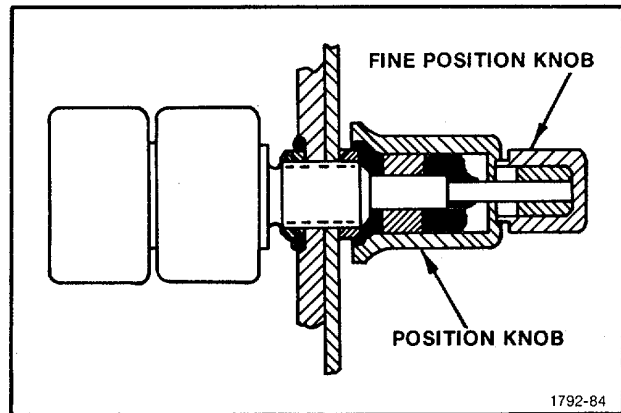

Figure 5-31. Installation of knob on shaft.
2. Assemble the POSITION knob and the FINE POSITION knob on the control shafts as shown in Fig. 5-31.